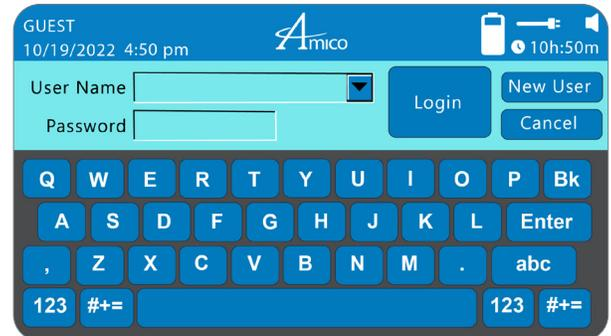

Figure 2
2. Select **“ADMIN”** from drop down list and login using password: AMICO (Figure 2).